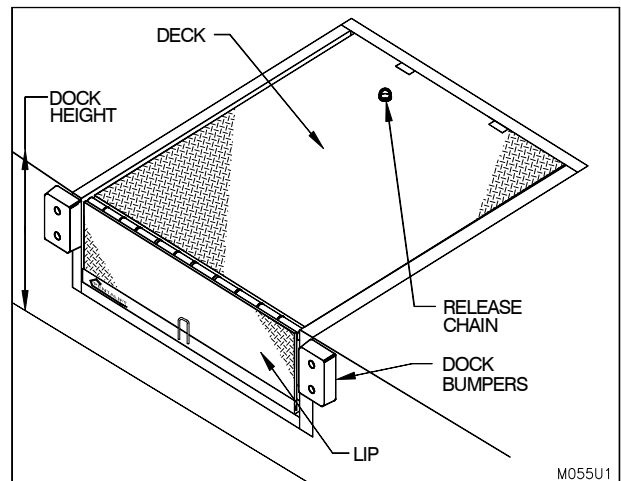

Figure 21: Deck in Stored Position
3. To raise the dock leveler, pull the release ring to FULL extension of chain and hold. (See Figure 21: Deck in Stored Position on page 15) The deck will raise and the lip will extend automatically. When the deck is fully raised, and the lip is locked, allow the release chain to retract into the pocket.